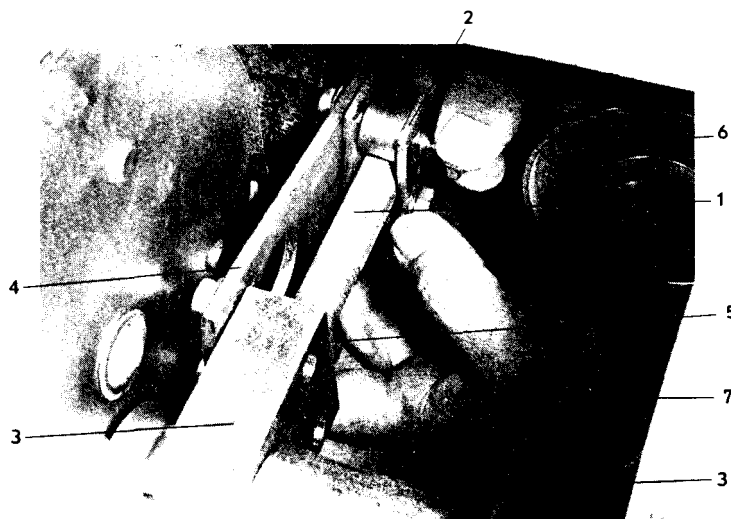
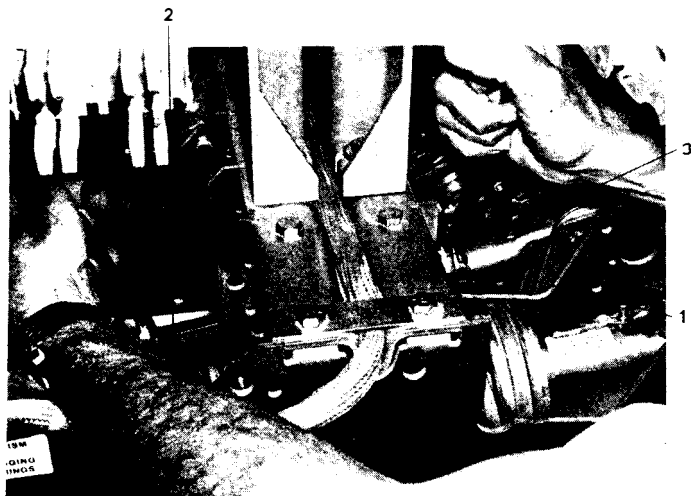

Fig. A10a Flywheel Brake
Fig. A10b Pull Rod
To remove the brake, remove the clamp, (2) Fig. A10a, that holds the brake assembly to the pullrod and then remove the two bolts that mount the brake to the flywheel block. Reinstall the new brake in the reverse order.
Charge and gag the closing spring and press the manual close push button. Remove the flywheel brake assembly (Reference paragraph A.5.20). The pull rod is a turn buckle arrangement with right hand threads on one end and left hand on the other. Loosen the jam nuts, (5) Fig. A10a and (3) Fig. A10b, on each end of the pull rod and remove the pull rod by unscrewing it. Remove the jam nuts and install them on the new pull rod. Install the new pull rod and screw both ends in simultaneously. Set the length of the pull rod initially to approximately 13 3/4 inch between the flywheel block, (3) Fig. A10a, and the coupling, (1) Fig. A10b, attached to the adjustable throw transfer crank. Adjust the pull rod length as described in paragraph 5.3.
To remove the closing spring charge and gag it and push the manual close push button. Push the manual trip push button to assure that the breaker is open. Disconnect the closing spring assembly, (6) Fig. A10a, by driving the roll pin out that connects the closing spring assembly to the flywheel block. The closing spring can then be removed through the bottom of the breaker.
The closing spring can be removed by driving out the roll pin that connects the closing spring, (6) Fig. A10a, shaft to the flywheel block and then removing the left rear wheel assembly and the closing spring gag interlock on the left side frame. THESE OPERATIONS MUST BE PERFORMED WITH THE CLOSING SPRING DISCHARGED. The end of the closing spring opposite the flywheel can then be forced down from the breaker frame and the closing spring shaft pulled out of the flywheel block.